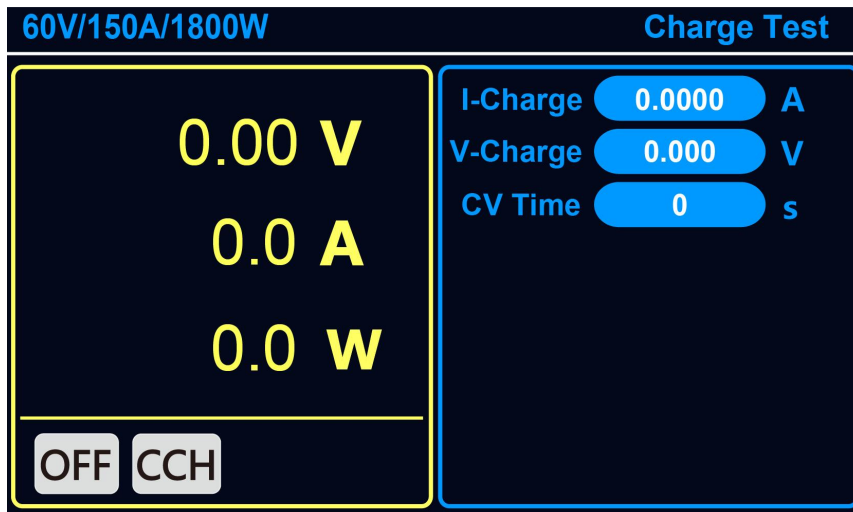

Figure 35 Charge Mode
6. Press the "On/Off", the display channel status is identified as "ON", as shown in Figure 35;